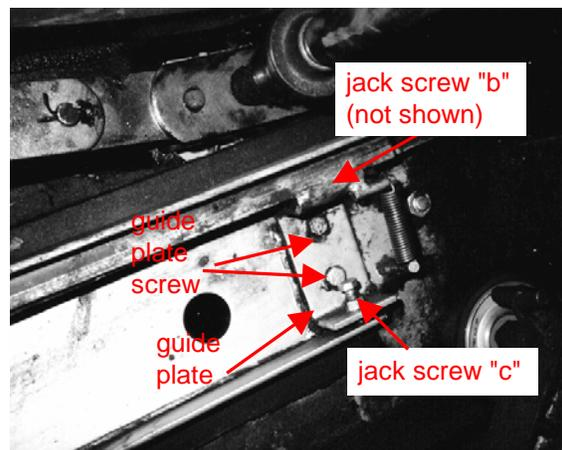

Figure 8-10d Upper left upthrust guides
- With your body weight on the leading step, adjust LH and RH jack screw "c" (figure 8-10d below) to attend $\frac{1}{16}$ in. **clearance between the safety guard bar and step "T" bar.**
- Perform the same adjustment procedures as the upper safety guard bars by adjusting jack screw "d" (figure 8-10d above).